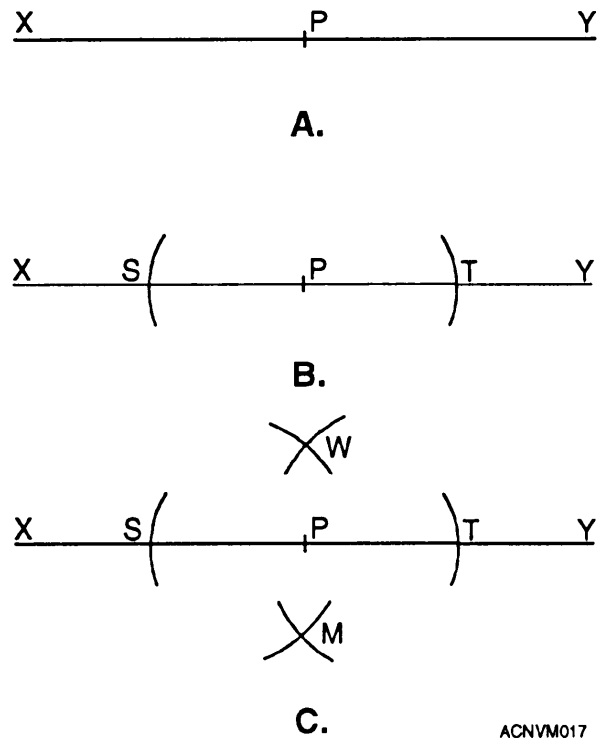

Figure 12-17.—Constructing a 90-degree angle by bisecting a line at a given point.
3. Figure 12-17 shows another way to construct a perpendicular at a given point on a line: